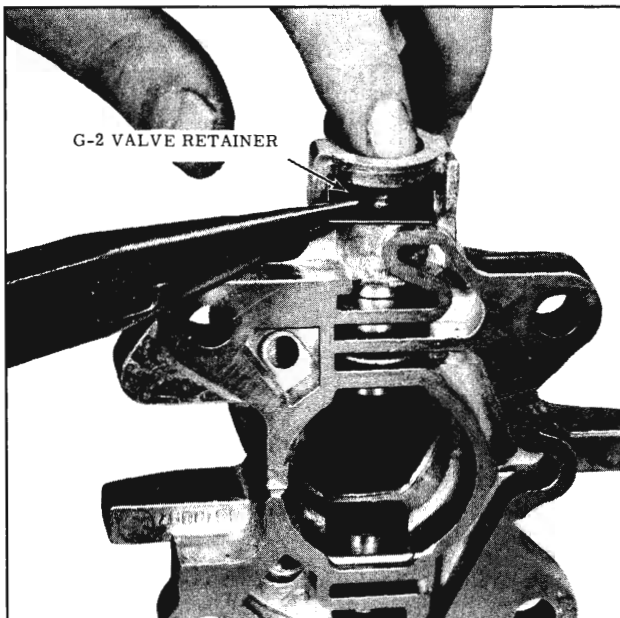

Fig. 3-64 Removing Retainer
1. Compress tang of G-2 plug retainer and remove. (Fig. 3-64)